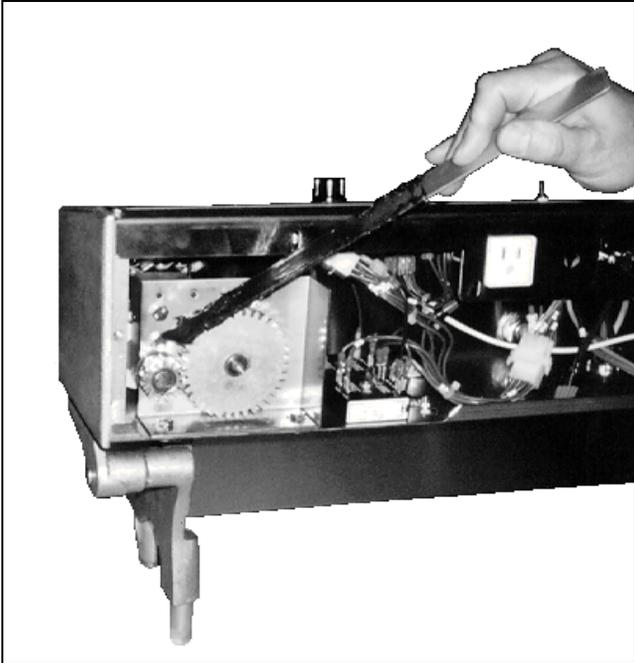

Figure 2-3. Lubricating the Drive Gears.
3. Lightly coat the gear teeth with food grade grease. See Figure 2-3.